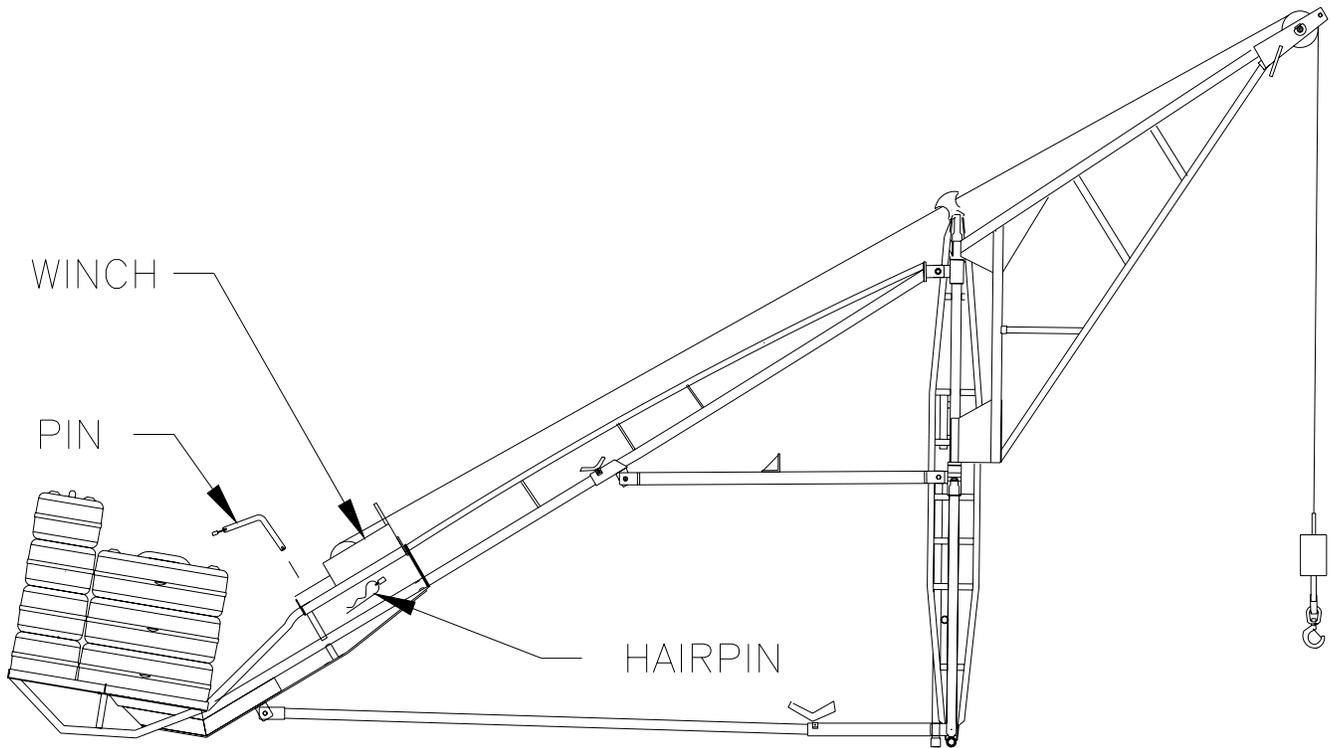

Figure 3-1.
2. Place the winch in position on the counterweight leg as shown in Figure 3-1.